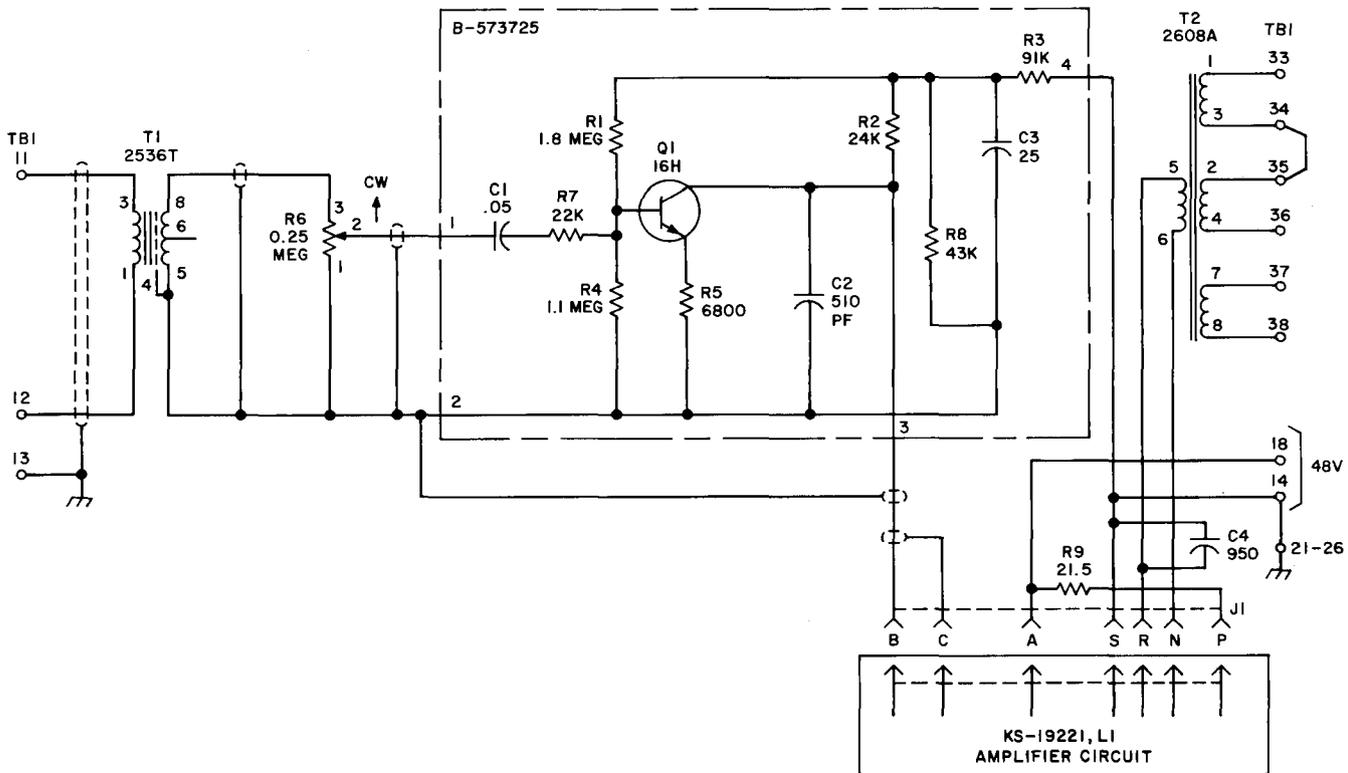

Fig. 1—KS-19739 L1 Amplifier, Schematic Diagram
1.01 This section outlines the transmission tests for the KS-19739 L1 amplifier as a unit. The KS-19221 L1 plug-in amplifier (included in the KS-19739 L1 amplifier unit) may be removed and tested separately, when necessary, in accordance with Section 024-181-100. The KS-19739 L1 amplifier may be used in systems requiring up to 4 watts output. A schematic diagram of the amplifier is shown in Fig. 1.